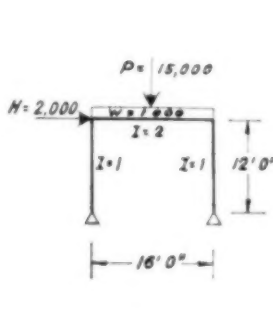
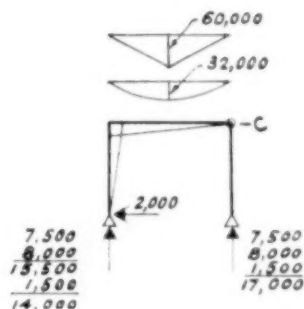
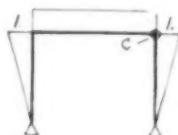

Fig. 8.
Fig. 9.
Fig. 10.
**Example 5.**—The two-hinged frame (Fig. 8) is to be designed. On account of the horizontal load the plastic hinge will develop at point C and the determinate case is a three-hinged frame with one hinge at C (Fig. 9). Case  $X_1 = 1$  is shown in Fig. 10.